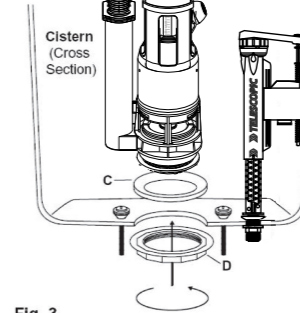

Fig. 3
3. Assemble the flush valve (B) through cistern with rubber washer (C) on the inside of the cistern. Secure using fixing nut (D). Take care not to over tighten. (see **Fig. 3**).